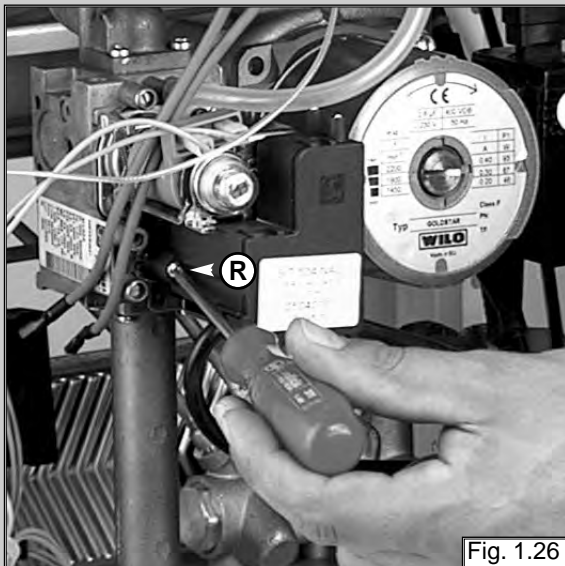

Fig. 1.26
2. Remove the screws “R” (see fig. 1.26) with a Pozidrive No. 2 star tip screwdriver;